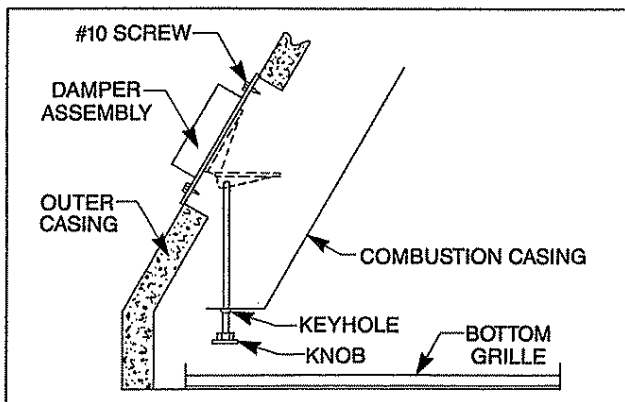

Fig. 31. Mounting damper assembly.
2. You are now ready to install the air duct and the damper assembly. Insert the air duct into the hole in the outer casing, originally covered by the cover plate, until its side flanges contact the outer casing. (**Note:** Slot in air duct should be toward the front of the fireplace when installed.) Position the gasket to the backside of the damper assembly. Install the damper assembly by inserting its damper rod through the slot in the air duct and through the keyhole in the bottom of the left side brick retainer (See Fig. 31). The damper assembly should be positioned so the damper blade swings freely in operation.